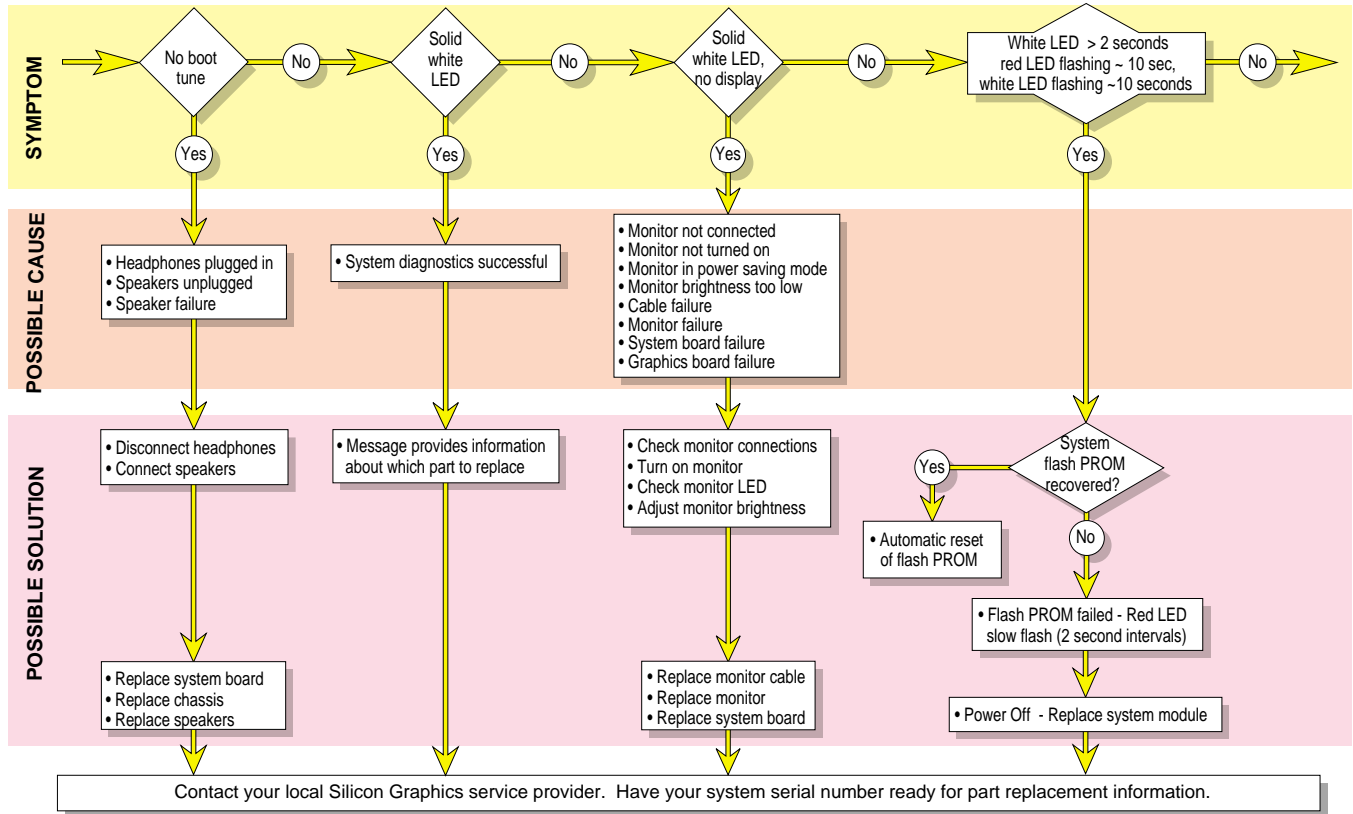

Figure 8-2 Lightbar LEDs - Front of Octane, Diagnostic Chart #2
- Lightbar LEDs - Front of Octane, Diagnostic Chart, Figure 8-2